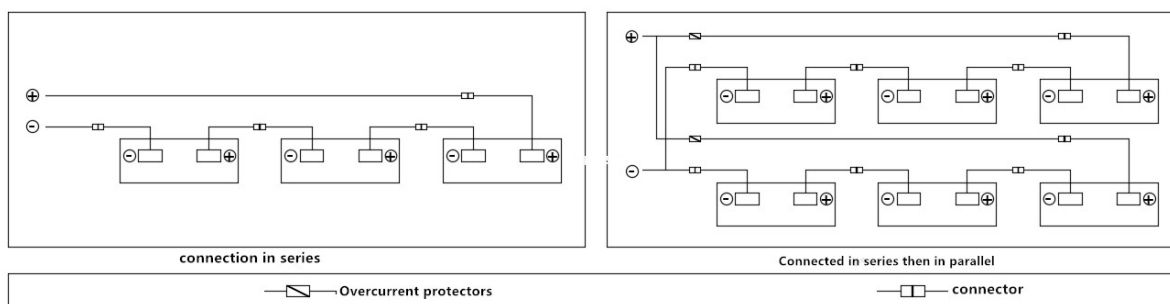

Figure 17 Series-parallel electrical diagram
- When Galaxy products are connected in series, the total voltage is the sum of the voltage of every single Galaxy product in the string, and when Galaxy products are connected in parallel, the final current is the sum of the current of every string of Galaxy products, as shown in Figure 17. Galaxy products of different electrical performance models should not be connected in one string.